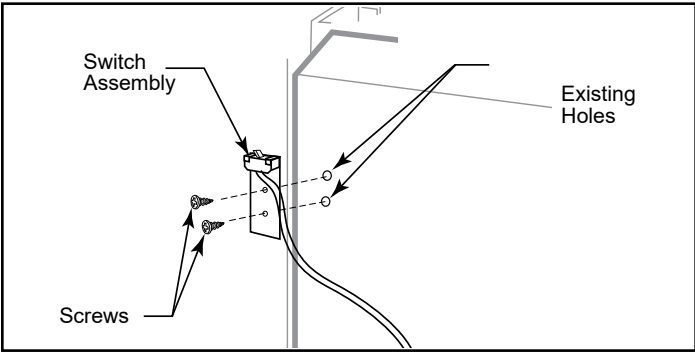

Figure 2.6 - Attach switch assembly to rear shroud.
- 1. Attach switch assembly to left rear side of stove shroud using two screws and existing holes in shroud, Figure 2.6.